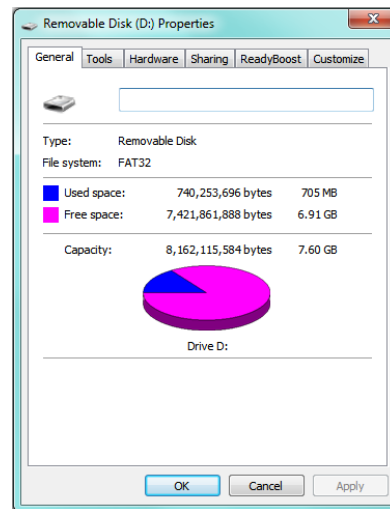

Figure 14 Properties of the USB Drive
4. When 'Properties' has been selected the window will be opened as shown in *Figure 14*.